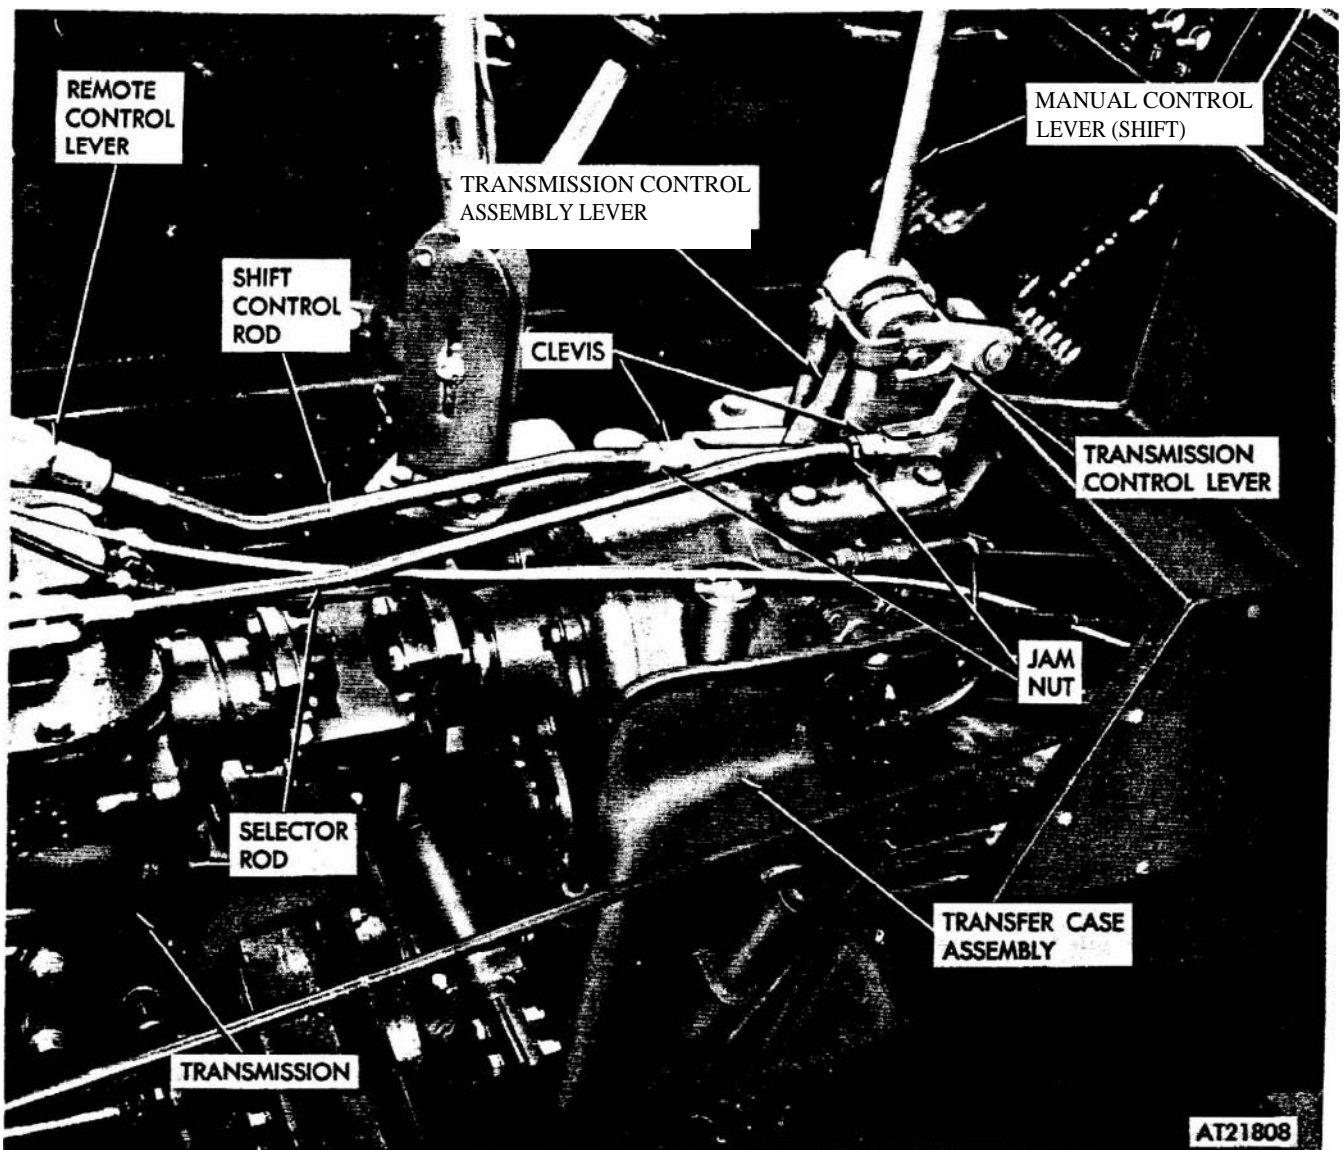

Figure 2-155. Transmission control and linkage, adjustment
(1) Disconnect shift control rod from transmission control assembly lever by removing cotter pin, washer and pin. Loosen jam nut from clevis (fig 2-155).
(2) Disconnect selector rod from shift control assembly by removing clip and pin. Loosen **jam nut** from clevis.
(4) Position selector rod to transmission control lever. Adjust clevis until pin can **be** inserted freely. Secure pin with clip. Tighten jam nuts to devices.
(5) Position shift control rod to transmission control assembly lever. Adjust clevis, until pin can **be** inserted freely. Secure with washer and cotter pin. Tighten jam nuts to devices.
(6) Install console (refer to para 2-33).
(7) Install tractor seats (refer to para 2-221).